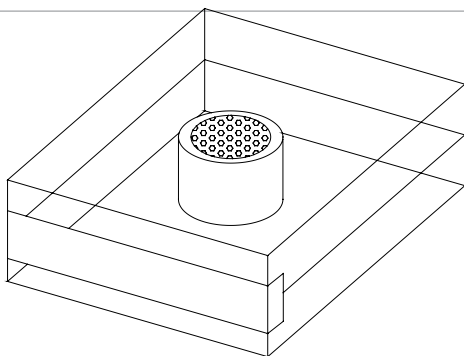

Figure 3: Packaged oxygen sensor
1. Remove the oxy.IQ and the separately-packaged oxygen sensor (see figure 3 below) from the shipping container. Keep the shipping container and packaging material for possible future use.
5. Open the airtight package (see figure 3) and remove the oxygen sensor from the package. To maintain the oxygen sensor's energy level, remove the red grounding tab and **immediately** install the sensor in the oxy.IQ